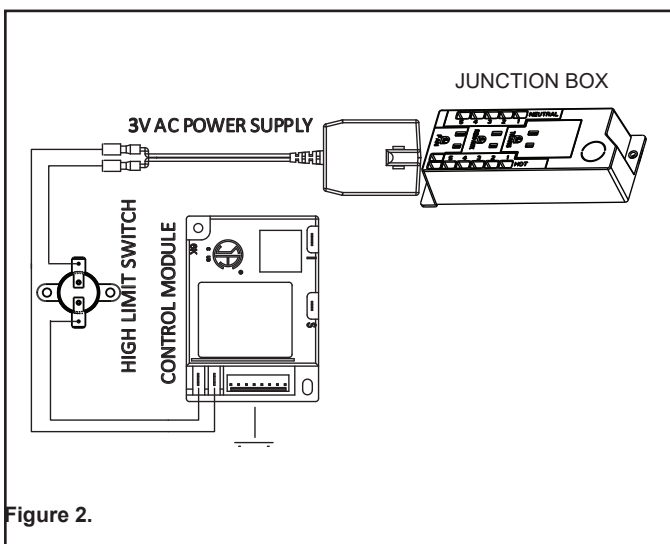

Figure 2.
4. Connect female end from limit switch to green module. See Figure 2.